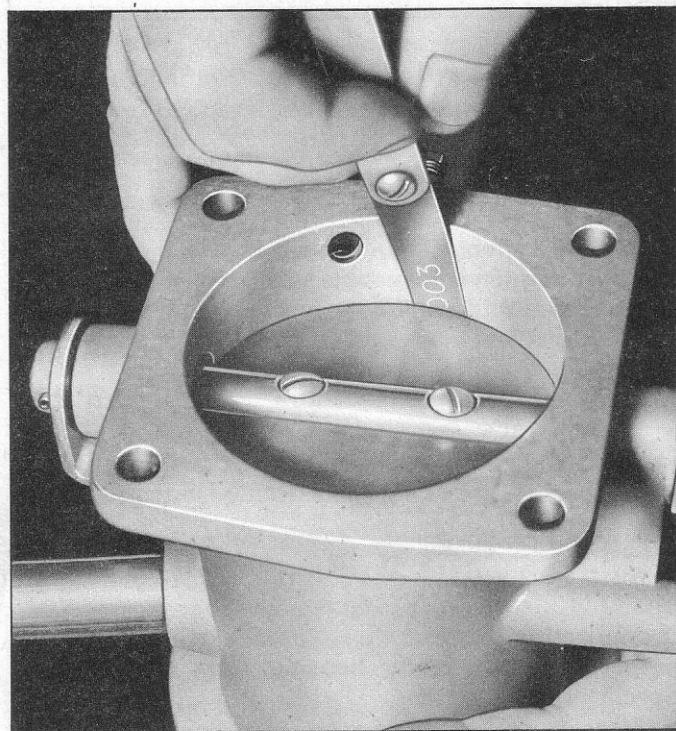
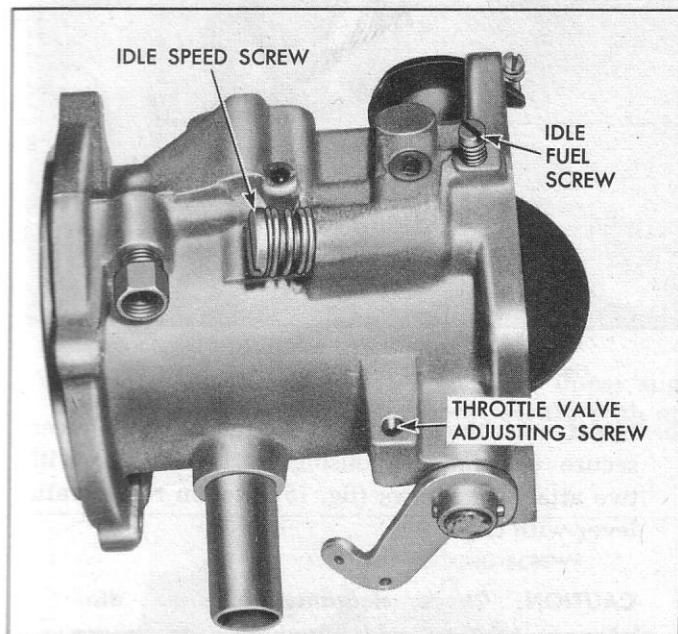

Fig. 69—Checking Throttle Valve to Body Clearance
Fig. 70—Throttle Valve Clearance Adjusting Screw Location
1. Install throttle valve assembly (if removed). Check clearance between valve and air meter body (fig. 69). This clearance should be approximately .0045" with throttle resting solidly against stop screw. Remove lead plug and hex head set screw to make this adjustment (fig. 70).